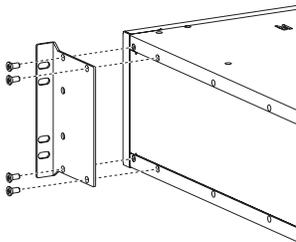

FIG. 1 Attach rack ears to side of enclosure
1. Attach the rack ears as shown in FIG. 1 (screws provided).